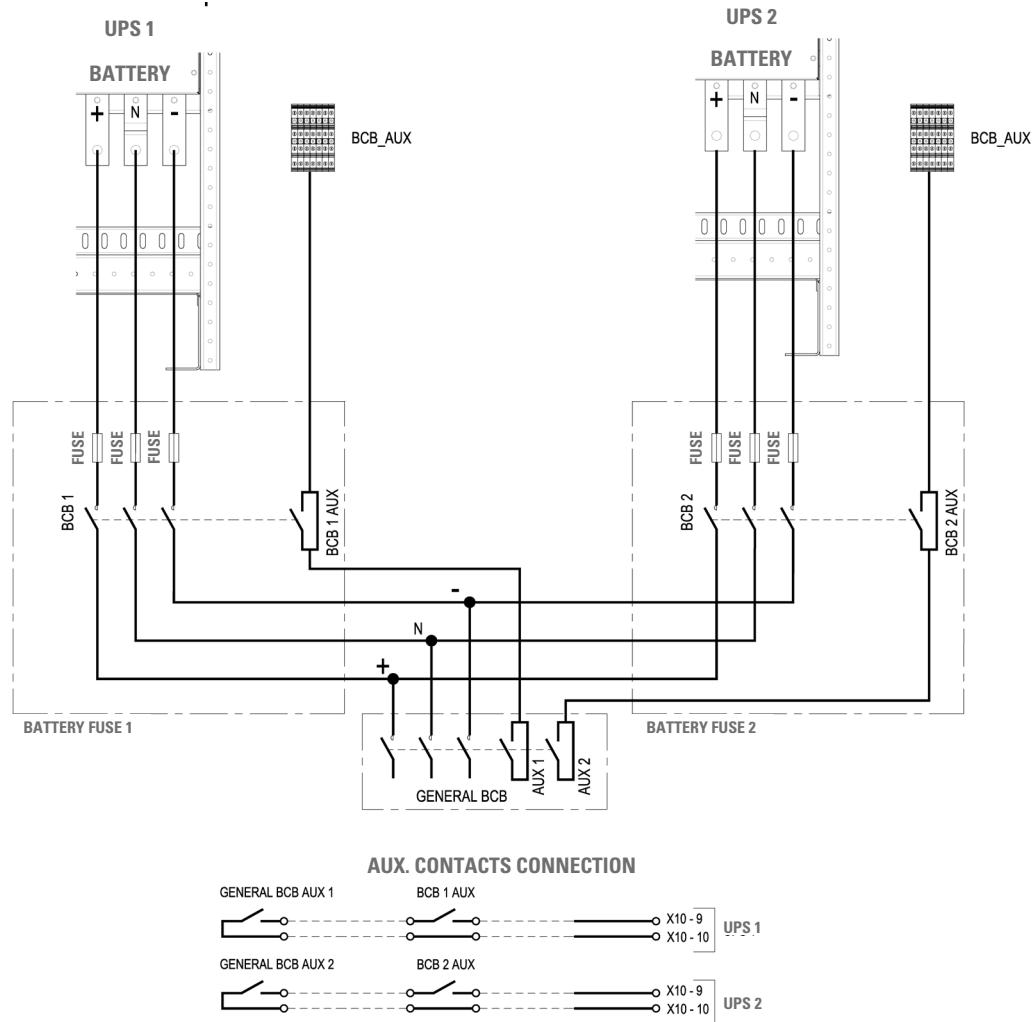

Fig. 51. Connection of the SLC 100 - 160 X-PERT and SLC 200 - 250 - 300 X-PERT battery.
- Every SLC X-PERT UPS between 100-160 kVA and 200-300 kVA must be connected to the battery via an **external BCB disconnector** (BCB1 and BCB2 in Fig. 51). The battery disconnector must be equipped with a "normally open" contact in order to be connected to the BCB-AUX input disconnector. The connection diagram is shown in the following figure: